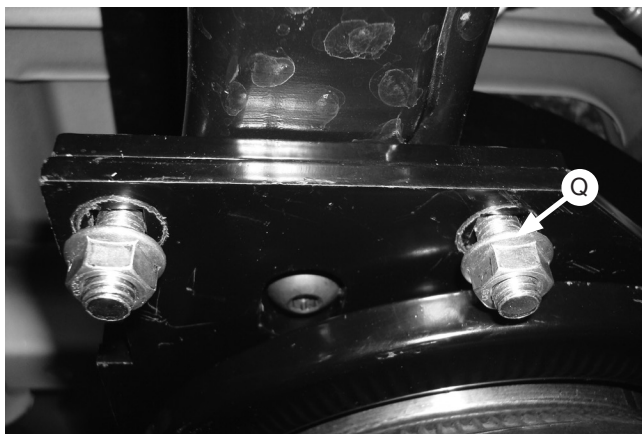

Fig. 18
4. Before proceeding, ensure the 90 degree fittings each point inboard toward the center of the vehicle. While raising the axle or lowering the body of the vehicle, align the previously installed upper frame bracket carriage bolts with the air spring bracket holes so the carriage bolts protrude through the air spring bracket. Cap the carriage bolts with the 3/8" serrated flange lock nuts (Q) (Fig. 18). Snug the bolts down first then torque to 31 lb.-ft. (42 Nm). Finish raising the axle or lowering the body and remove safety stands.